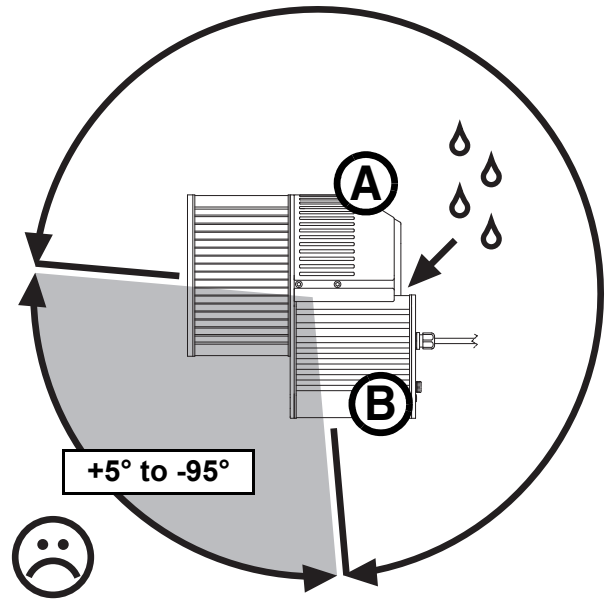
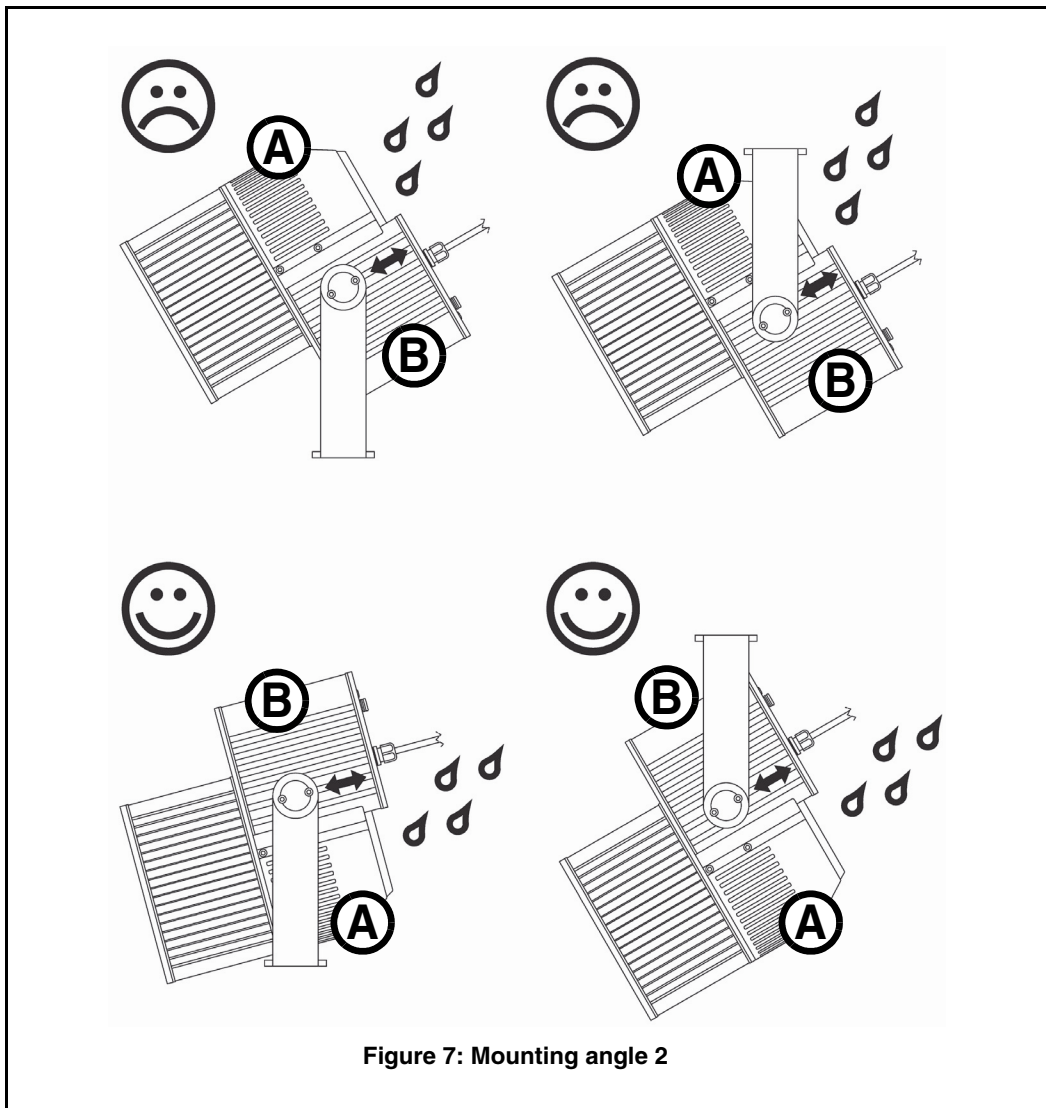

Figure 6: Mounting angle 1
Figure 7: Mounting angle 2
- Install the fixture as shown in Figure 6 and Figure 7 (see page 14).
See Figure 6 on right. If you install the Exterior 400 Image Projector with its heat exchanger air intake **A** pointing upwards and its power box **B** below the main luminaire housing, and if you point the luminaire from approx.  $+5^\circ$  to  $-95^\circ$ , rainwater can collect on top of the power box (see arrow). This can immerse silicone seals in hot and cold water, often mixed with pollutants, for long periods. This can in turn cause damage and allow water to enter the product.
See Figure 7 below. If you install the Exterior 400 Image Projector with its light beam pointing downwards, install it with its air intake **A** facing downwards and its power box **B** above the main housing so that water will drain away from the top of the power box **B**. Depending on whether you install the luminaire in a standing or hanging position, you may need to release the luminaire completely from its mounting yoke, turn it so that its power box **B** is above the main luminaire housing, and then reinstall the luminaire in its yoke.
1. Attach a safety cable that is approved for the weight of the fixture to a secure anchoring point such as an eyebolt in the installation surface and loop it through one of the holes in the yoke base shown as **A**, **B** or **C** in Figure 6.